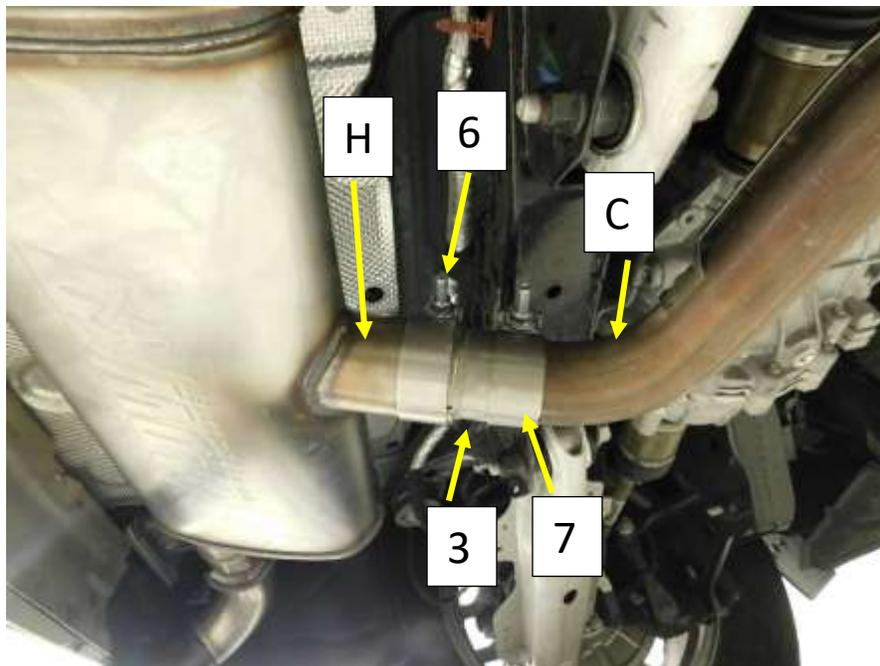

Figure 9
- Adapter Pipe "B" PN: TB944M (3) This will be the adapter pipe supplied with Step Down
- Band Clamp PN: MC217BS (2.17 in), (7) (smallest of the three clamps provided clamps provided)
1. Install adapter pipe "B" (3) (with Step Down) into the muffler inlet pipe (H). **Fig.9**
2. Install the provided 2.17in band clamp (7) over the OEM exhaust pipe (C) with the bolt to the right and the nut facing down. **Fig.9**
3. Align the muffler adapter pipe (3) to the OEM Exhaust pipe and slide the adapter pipe down and over the OEM exhaust pipe (C).
4. Slide the adapter down until the step-down edge is approximately $\frac{1}{4}$ " out of the muffler. Tighten the 2.5" band clamp on the muffler inlet. **Fig.9**
5. Slide the 2.17in Band clamp (7) over the adapter and align the clamp to the edge of the adapter (3). Tighten the 2.17in clamp with the adapter approximately $\frac{1}{2}$ " from the bend. **Fig.9**